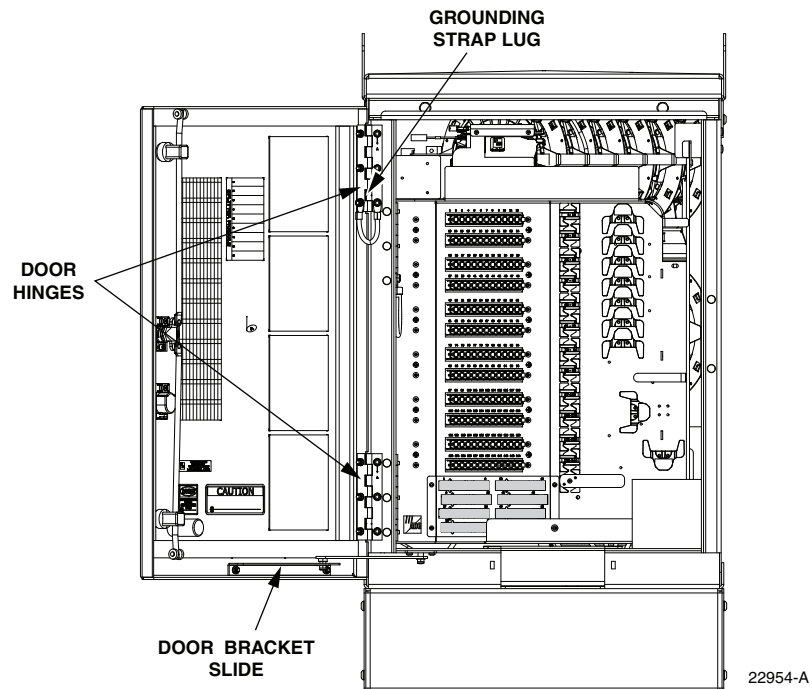

Figure 49. Door Replacement
1. Open the cabinet door and lock it in the open position as shown in Figure 49.
- **Note:** Be sure to re-secure the grounding strap lug (see Figure 49) to the door when securing the hinges to the door.